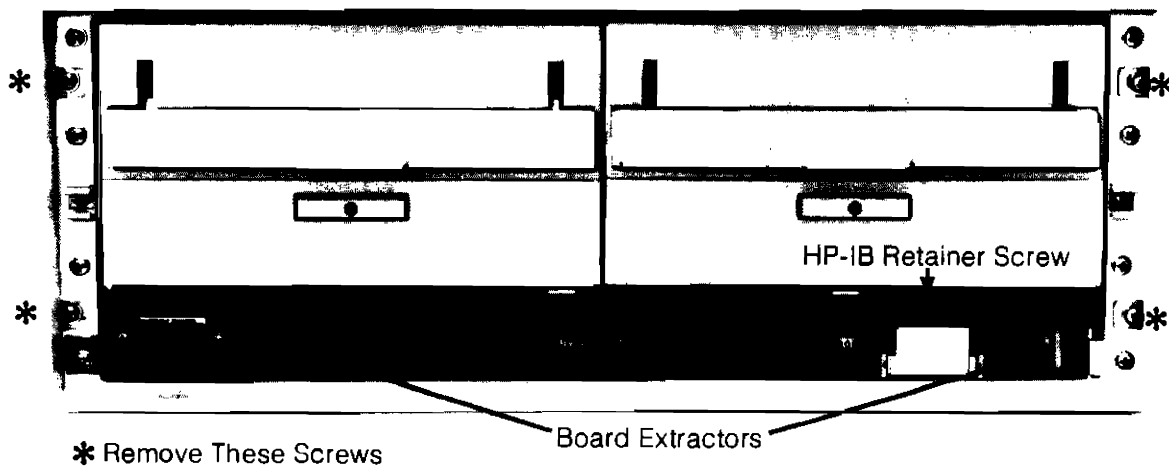

Figure C-2. Front Panel Removed
4. Remove the four recessed screws (two per side) on the exposed front panel as shown in Figure C-2. Keep the screws and washers for mounting into the rack.
9. Place the unit in the rack and secure it to the rack using the screws and washers removed in step #4 into the same recessed holes shown in Figure C-2. Again, do not support the unit by the front panel only. The rack must have a shelf or side rails.
6. Point the board extractors (see Figure C-2), located at the front corners of the controller board, straight out and then push the controller board as far into the unit as possible. Push the extractors flat into the controller board, thus seating the controller board the rest of the way into the unit.
5. Remove the four recessed screws (two per side) on the exposed front panel as shown in Figure C-2.
12. Remove the controller board by pulling out on the board extractor (see Figure C-2) at each front corner of the controller board.
22. Point the board extractor (see Figure C-2), at either front corner of the controller board, straight out and then push the controller board as far into the unit as possible. Push the extractors flat against the controller board, thus seating the controller board the rest of the way into the unit.
28. Re-install the screws previously removed from the front panel recessed positions (see Figure C-2).